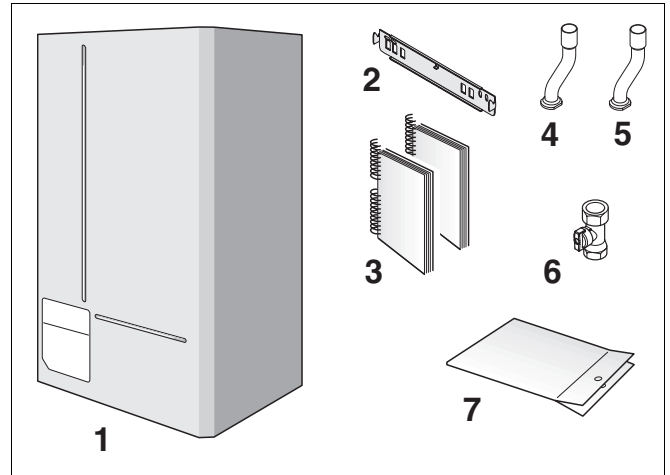

Fig. 4 Items supplied with unit
Key to fig. 4:
- Take out the wall bracket (fig. 4, item 2) and attach to the wall using the wall mounting template.